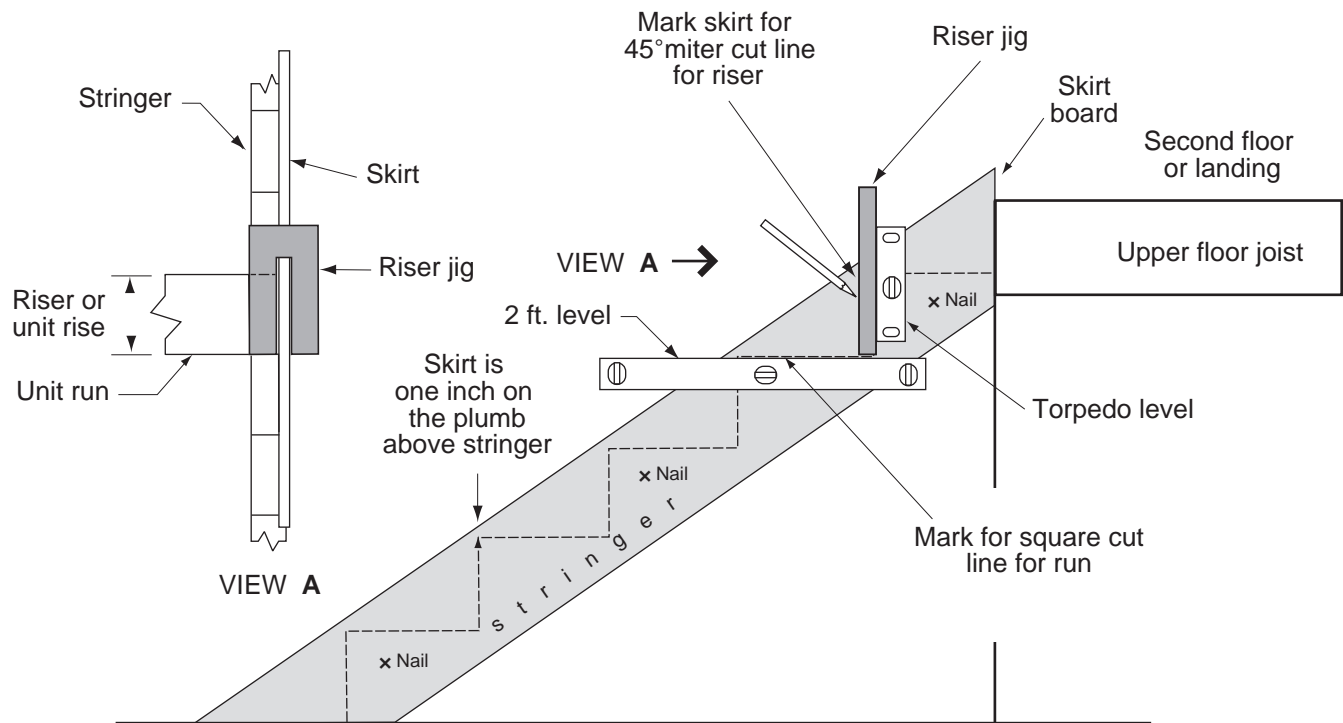

Fig. 2-4 Using the riser jig
3. Slide the riser jig over the skirt, (A leg is resting on each side of the skirt with the stringer side of the jig touching the rise and run portion of the stringer in at least one place). Please note Fig. 2-4 here.